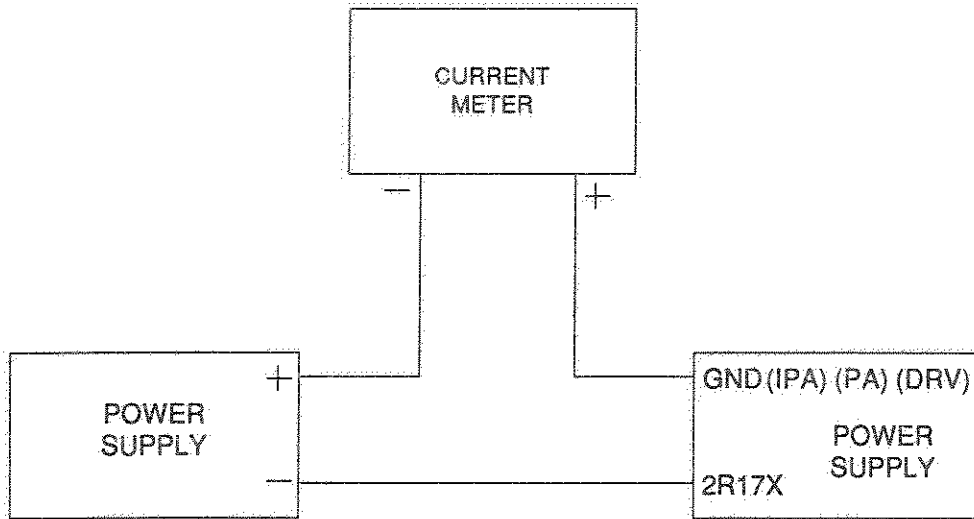

Figure 6-106.2. Anode DC Overload Adjustment Connection Diagram
6. With power supply turned off, connect power supply negative output to junction of 2R181-1 and 2R178-1. See Figure 6-106.2.
7. Connect multimeter in line with the power supply to monitor current as shown in Figure 6-106.2.
- 6. With power supply turned off connect power supply negative output to junction of 2R177 and 2R180. See Figure 6-106.2.
- 7. Connect multimeter in line with the power supply to monitor current as shown in Figure 6-106.2.
6. With power supply turned off, connect power supply negative output to junction of 2R176 and 2R179. See Figure 6-106.2.
7. Connect current meter in line with power supply to monitor current as shown in Figure 6-106.2